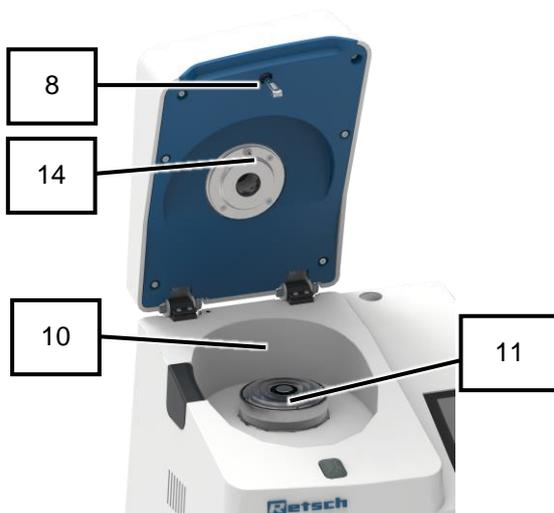

Fig. 57: Interior
5. If inserted, remove the grinding tools (cassette with lid, ring sieve, rotor and labyrinth disc) from the interior (10).
6. Clean the locking pin (8) under the device hood with a brush (Fig. 57).
7. Clean the temperature sensor (14) under the device hood (2) and next to the rotor shaft (10) with a brush (Fig. 57).
8. Clean the rotor shaft (11) with a vacuum cleaner (Fig. 57).
9. Clean the interior (10) and the underside of the device hood (2) with a vacuum cleaner (Fig. 57).
- ➔ The interior (10) is cleaned.